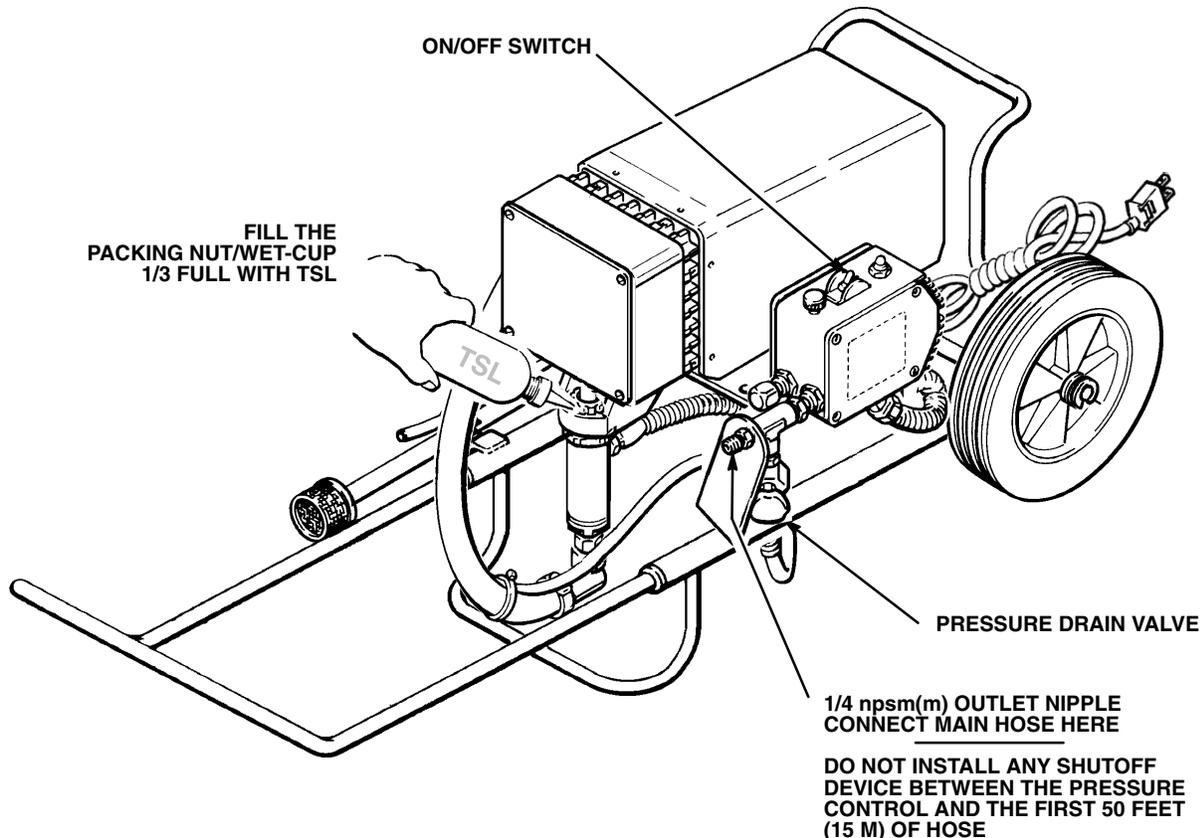

Fig 8-1
### 1. Connect Hose and Gun. See Fig 8-1.
3. Never install any shutoff device between the pressure control and the main hose. See Fig 8-1.
### 3. Fill Packing Nut/Wet-Cup. See Fig 8-1.